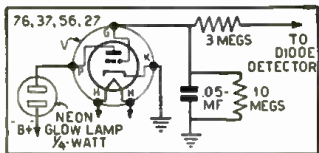

Fig. 3. Neon tuning indicator.
**TUNING INDICATOR.** This very sensitive circuit, shown in Fig. 3, may be used where other types of indicators do not give sufficient change to be of any use. For use on high-fidelity sets, receiving strong locals, a 2-meg. resistor in place of the 10-meg. unit shown will give extremely sharp resonance indication.